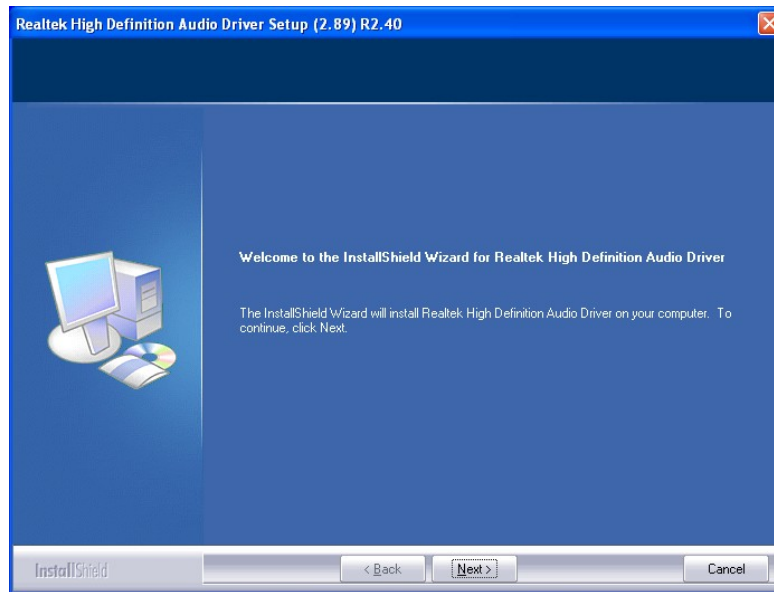

Figure 5-18: Audio Driver Welcome Screen
Step 4: The **Audio Driver Welcome Screen** in **Figure 5-18** appears.